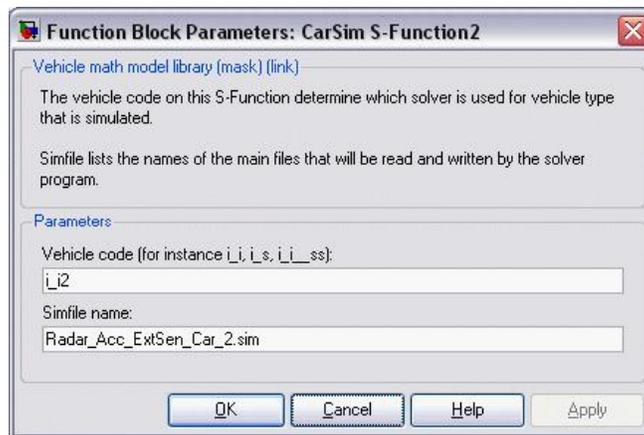

Figure 6. Function block parameters for second vehicle.
As with the first vehicle, a custom simfile name is specified: `Radar_Acc_ExtSen_Car_2.sim` (6). This name matches the name shown in the **Function Block Parameters** window for the second vehicle block in the Simulink model (Figure 6).
The file name `i_i2.dll` from this screen is also set in the **Function Block Parameters** field (Figure 6).